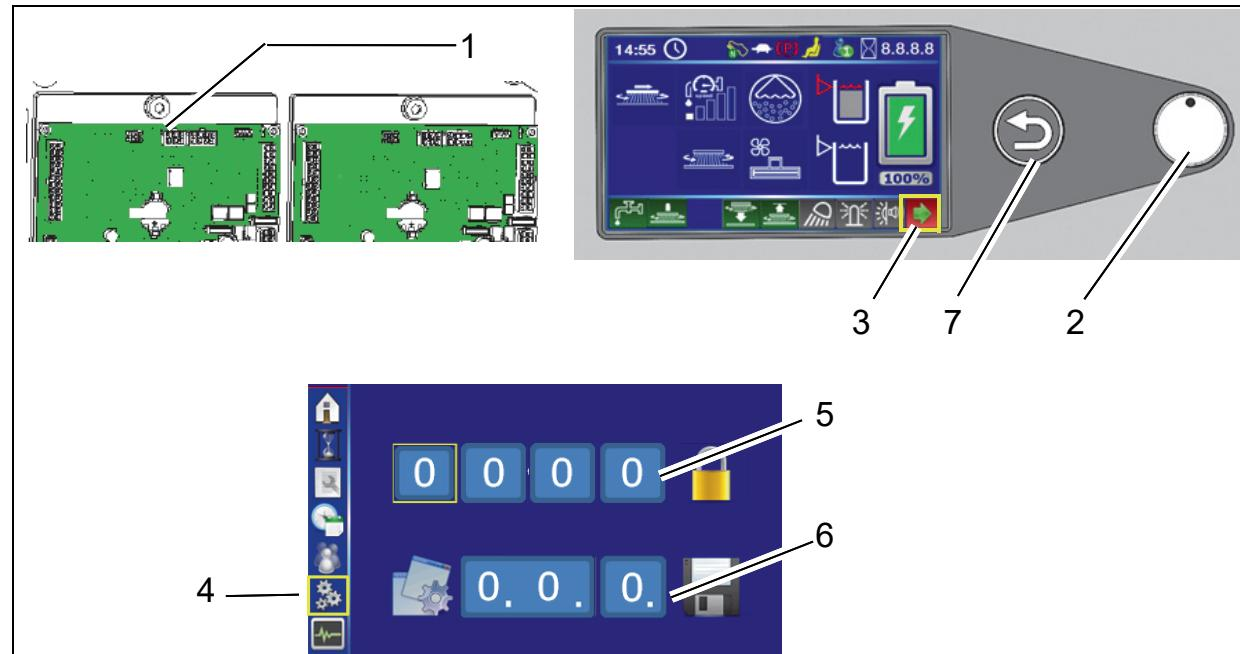

Fig. 7
Plug diagnostic connector into slot X20 of controller A1 (Fig. 7/1).
2. Select the arrow soft key (Fig. 7/3) on the control panel using the turn-push knob (Fig. 7/2) and press to access the sub-menu.
3. Select the configuration menu in the sub-menu (Fig. 7/4).
4. Enter the 4-digit code in the configuration menu at the top (Fig. 7/5):
In the configuration menu at the bottom (Fig. 7/6), set the value of the option and save by pressing the turn-push knob. After confirming the last digit, **OK?** appears. Press the turn-push knob again to save the value. Saved value is displayed in green.
If the value is not to be saved, exit menu using the return key (Fig. 7/7).